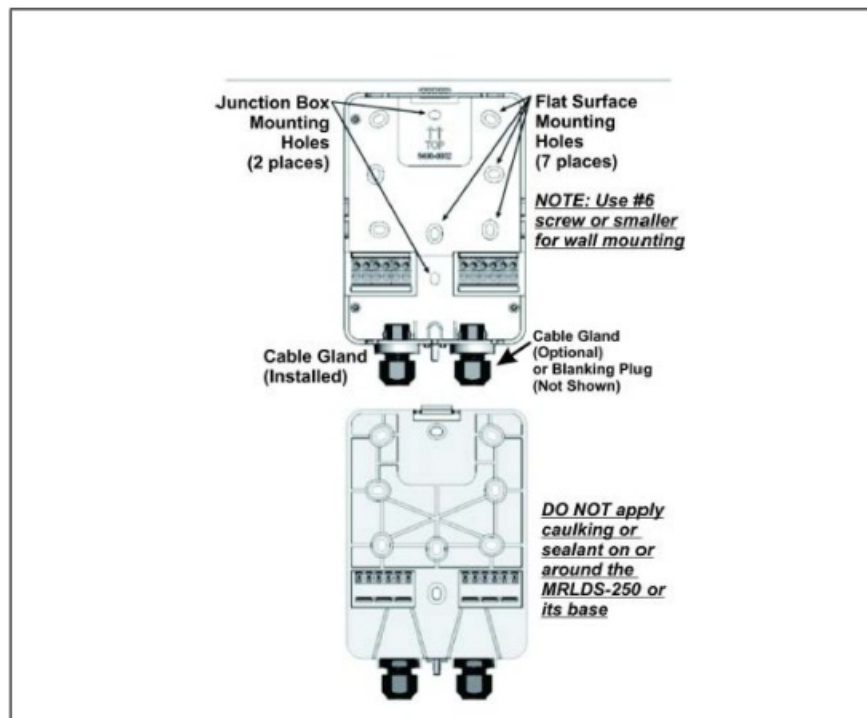

Figure 2 - Front and Back of the MRLDS-250 Base
3. or Wall Mount, attach the MRLDS-250 base to the mounting surface using two #6 screws (provided) through two of the seven mounting holes (see Figure 2). For Junction Box Mount, attach the MRLDS-250 base to the junction box through the two junction box holes.